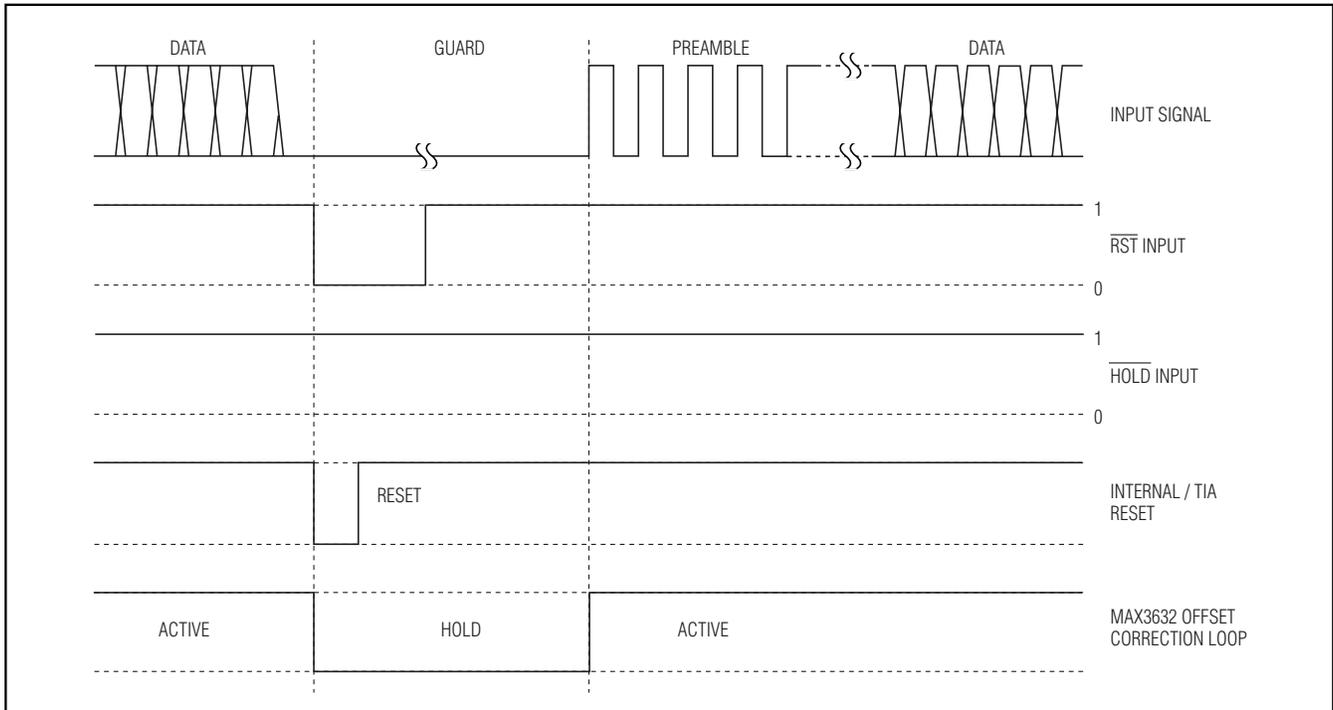

Figure 7.  $\overline{RST}$  Timing Method 1
The LVPECL-compatible reset input ( $\overline{\text{RST}}$ ) is used to transmit a reset signal to the MAX3630/MAX3631 TIAs. When the  $\overline{\text{RST}}$  input transitions low, a reset signal is generated by the internal logic and transmitted to the MAX3630/MAX3631 TIAs as described above in the *Input Stage* section. The data input (IN) must be a logic zero when  $\overline{\text{RST}}$  is asserted during the guard time (Figure 7). The  $\overline{\text{RST}}$  signal is also used to disable (hold) the offset correction loop until the first transition is detected by the reset and hold logic, thus indicating the beginning of the next burst signal. The hold input (HOLD) may be used to provide alternative offset cancellation control modes. Timing and operation of the  $\overline{\text{RST}}$  and HOLD inputs are described in more detail in the *Applications Information* section.
The  $\overline{\text{RST}}$  and  $\overline{\text{HOLD}}$  LVPECL-compatible inputs of the MAX3632 provide three different modes for disabling (holding) the offset correction loop during routine operations. The first mode of operation requires the single reset input,  $\overline{\text{RST}}$ , which is the same signal used to create the reset signal for the MAX3630/MAX3631 TIAs to arm its threshold setting circuitry. Refer to the MAX3630/MAX3631 data sheet and the *Input Stage* section for additional information. For this method, illustrated in Figure 7, the  $\overline{\text{RST}}$  signal disables (holds) the offset correction loop until the transition detector in the MAX3632 identifies the beginning of the next burst. The burst-mode reset signal,  $\overline{\text{RST}}$ , must occur entirely within the guard time interval to prevent corrupted data. The data input (IN) must be a logic zero when  $\overline{\text{RST}}$  is asserted (Figure 7). When operating in this mode, the  $\overline{\text{HOLD}}$  input should be set to a valid LVPECL high ( $1600\text{mV} \geq \overline{\text{VHOLD}}_+ - \overline{\text{VHOLD}}_- \geq 200\text{mV}$ ). If the functionality of the  $\overline{\text{HOLD}}$  input is not used in the application, it can be con-